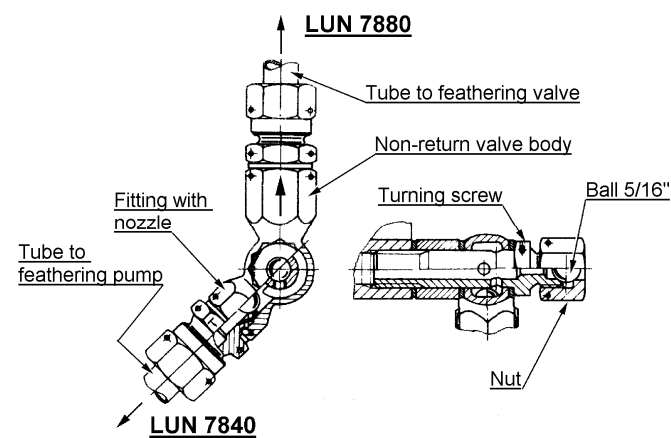

Figure 11-8 Connection of LUN7880 and LUN7840
a) Remove locking wire on the turning screw (figure 11-8) and loose it. Loose tube at the valve LUN7880 and tube from the auxiliary pump LUN7840 at the engine wall.